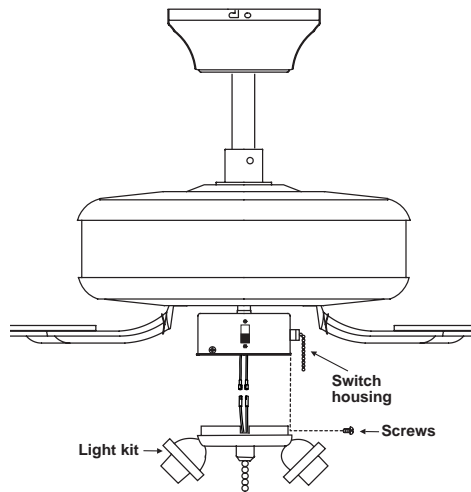

Figure 19
Step 2. Raise and hold the light kit close to the switch housing and proceed to do the wire connections, connect the blue wire from the switch housing to the black wire from the light kit. follow the same procedure with the black connectors. (Fig. 19)
Step 3. Attach the light kit to the switch housing by using the three (3) screws provided. (Fig. 19)